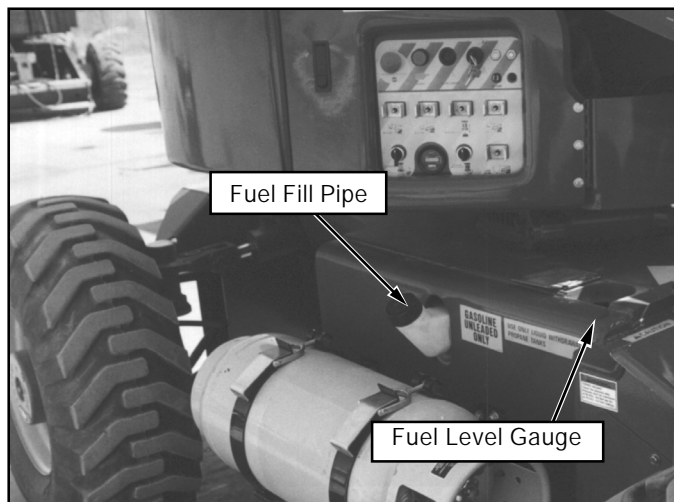

Figure 8: Fuel Fill Pipe and Level Gauge
1. Open fill pipe cap located on chassis left side (see figure 8).
3. Check fuel level by lifting flap located on top of chassis left side (see figure 8). Fuel tank full capacity is 25 US gallons.